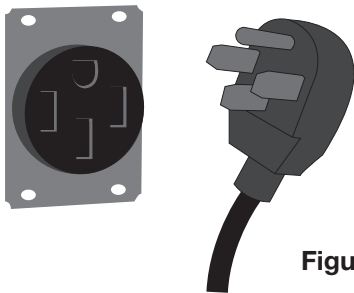

Figure 29
- 1** Units include standard NEMA 14-50P plug. (See Figure 29)